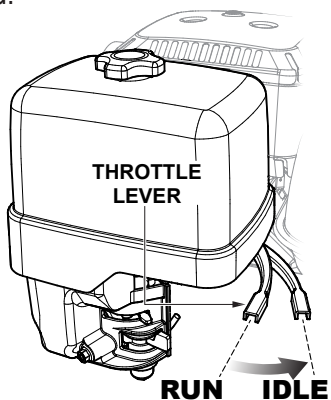
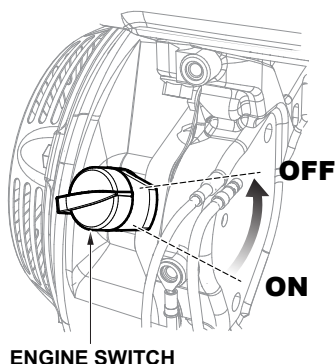

Figure 16. Engine Throttle Lever (Idle)
Figure 17. Engine ON/OFF Switch (OFF)
1. Place the **engine throttle lever** in the **IDLE** position (Figure 16) and run the engine for three minutes at low speed.
2. After the engine cools, place the **engine ON/OFF switch** in the **OFF** position (Figure 17).
Quickly move the **engine throttle lever** to the **IDLE** position (Figure 16), then place the **engine ON/OFF switch** in the **OFF** position (Figure 17).